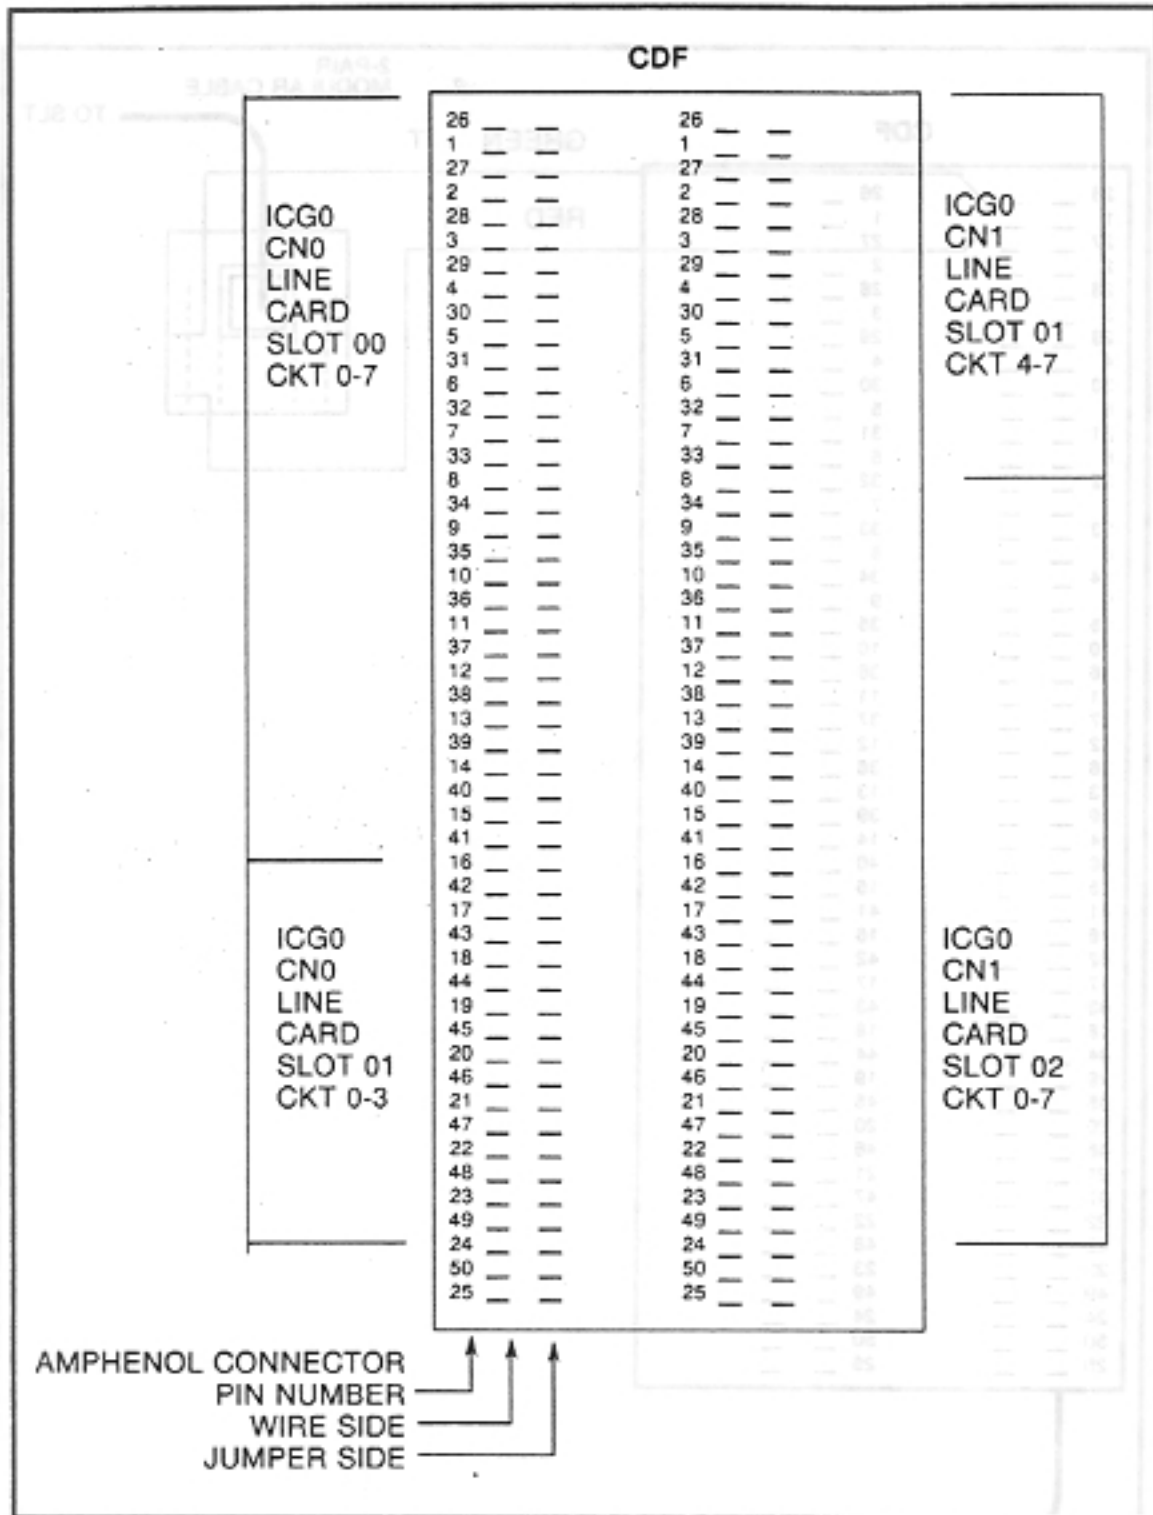

Figure 4.6 Typical CDF Terminal Block Connection for Line Card
4. Connect the CDF cable to the cabinet and label/run to the CDF. Terminal block connection information is provided in Figure 4.6.